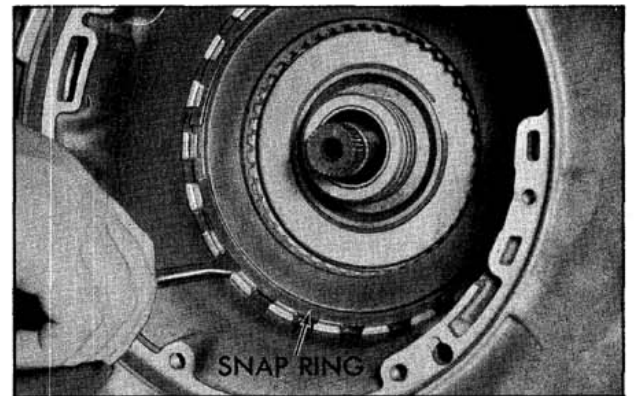

Fig. 6-71 Removing Snap Ring
12. Remove the intermediate clutch backing plate to case snap ring. (Fig. 6-71)